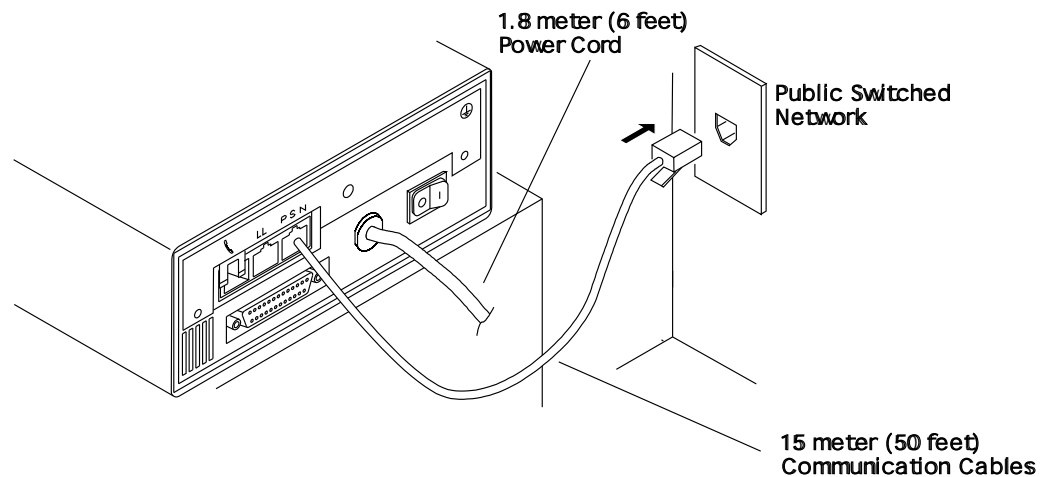

Figure 1-99. Installing Telecommunication Line Cables. Your modem's rear panel may have the PSTN and LL connectors located differently from those shown.
2. ____ **Plug** the switched network telecommunication cable into the 8-pin *PSTN* or *PSN* jack located on the modem's rear panel. If this modem is **not** being installed in the United Kingdom, connect the other end of the cable to the telecommunication line. See Figure 1-99.